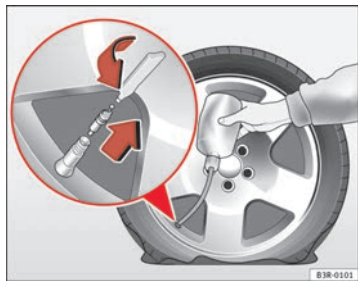

Fig. 189 Repairing a tyre
- Take the valve cap off the tyre valve and use the enclosed valve insert tool to unscrew the valve insert ⇒ fig. 189.